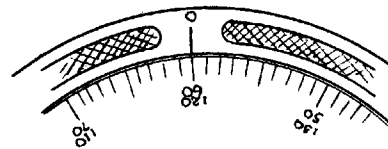

FIG. 9 READING PROTRACTOR
3. Loosen the clamping screw on the body of the protractor and swing the revolving turret to the desired angle. This angle is read at the index line on the body and the graduations on the turret. (Fig.9) Tighten the clamping screw.